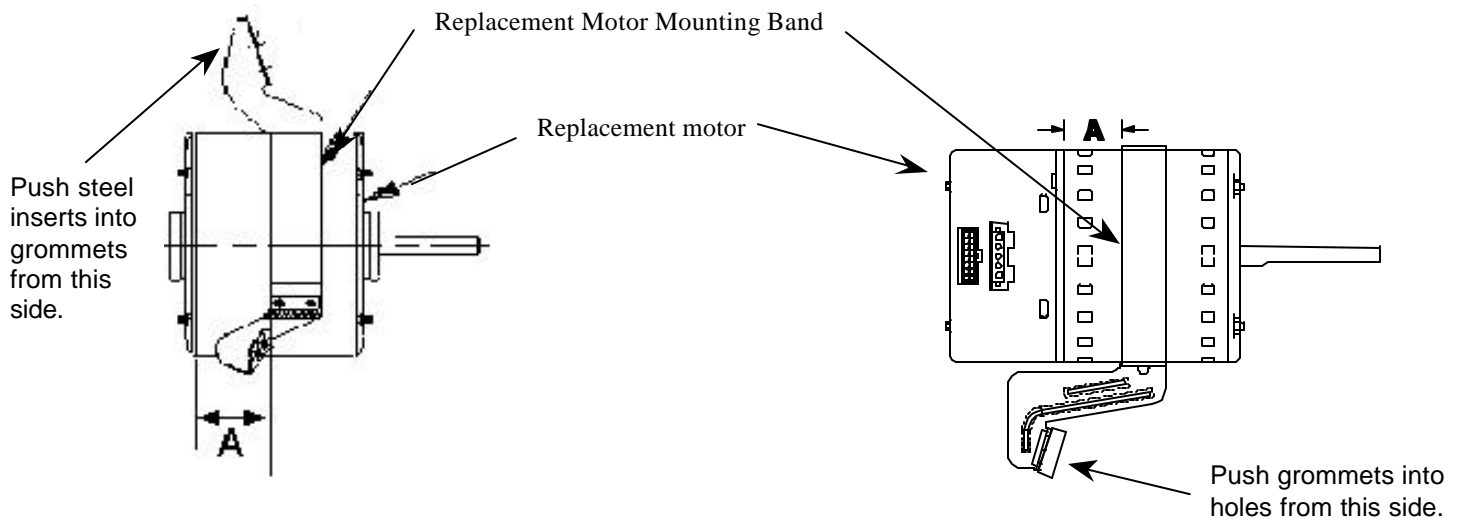

Fig. 1-Dimension "A", Motor Mounting Band Location
1. Verify that the grommets and inserts (if used) are inserted in the mounting legs correctly per Fig. 1.
3. Align the motor mounting arms as shown in Fig. 1. See Table 1 for the correct Dimension "A", as shown in Fig. 1